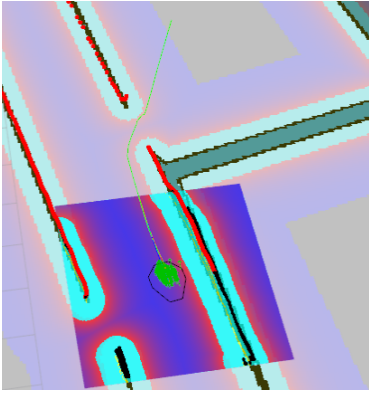

Figure 5: `cost_factor` = 0.01
**Experiment observations** Experiments have confirmed this explanation. Setting `cost_factor` to too low or too high lowers the quality of the paths. These paths do not go through the middle of obstacles on each side and have relatively flat curvature. Extreme `neutral_cost` values have the same effect. For `lethal_cost`, setting it to a low value may result in failure to produce any path, even when a feasible path is obvious. Figures 5 – 10 show the effect of `cost_factor` and `neutral_cost` on global path planning. The green line is the global path produced by `global_planner`.